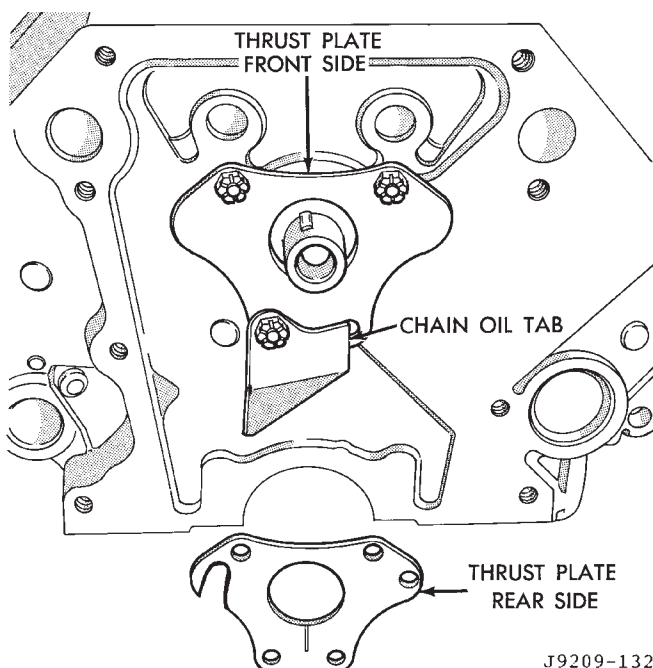

Fig. 39 Timing Chain Oil Tab Installation
- (6) Remove distributor and lift out the oil pump and distributor drive shaft.
- (7) Remove camshaft thrust plate and note location of oil tab (Fig. 39).